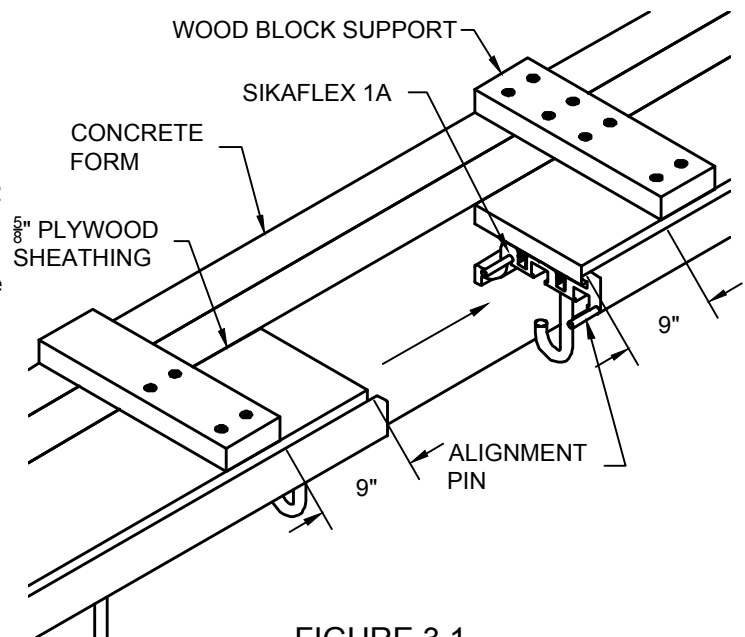

FIGURE 3.1
- 3.4) Position the Bottom Frame Assembly so that the Alignment Pins can insert into the corresponding bosses of the adjacent Bottom Frame and butt the Frame Assemblies together. (See Figure 3.1)